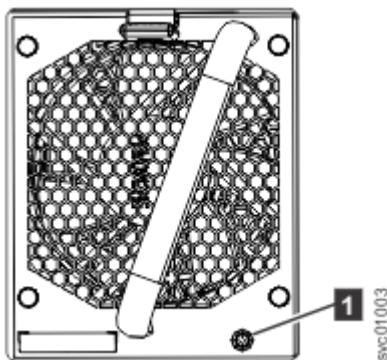

Figure 169. Fan module LED
1. Identify the fan module to be replaced. When lit, the amber LED on the front of the fan module (1 in Figure 169 on page 225) identifies a fault.